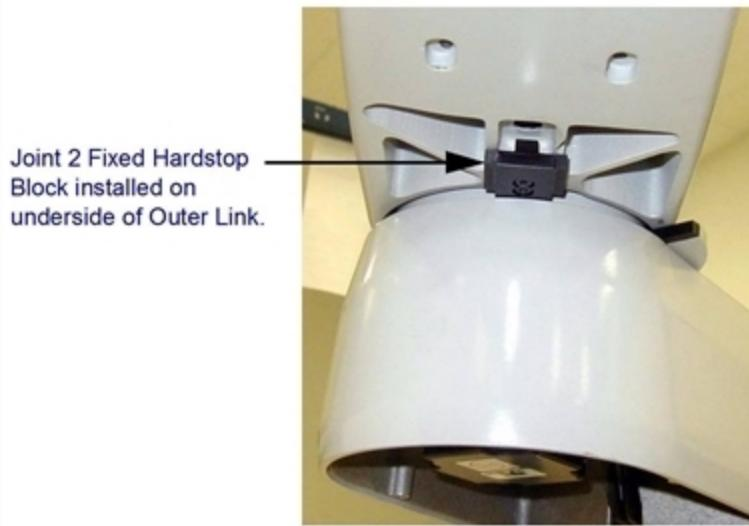

Figure 6-23. Fixed Hardstop Block for Joint 2
3. Slide the fixed hardstop device into the slot on the underside of the outer link. See Figure 6-23.